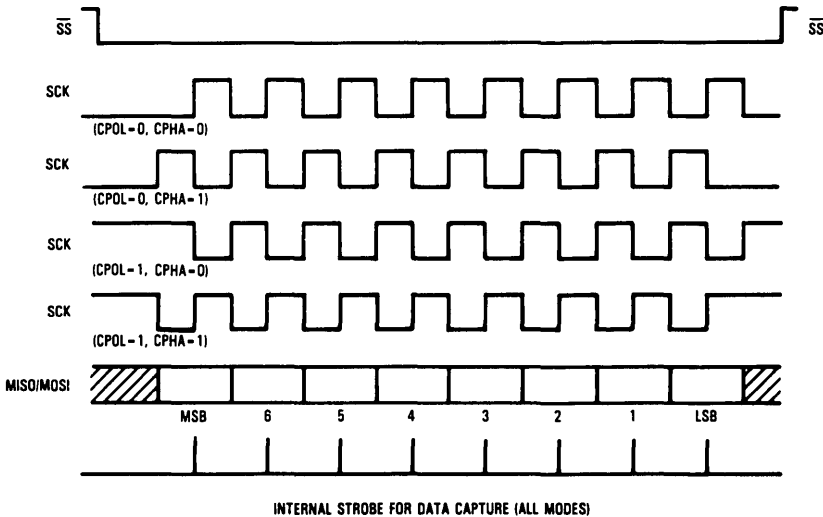

Figure 7. Data Clock Timing Diagram
- This bit selects one of two fundamentally different clock protocols. Refer to Figure 7.